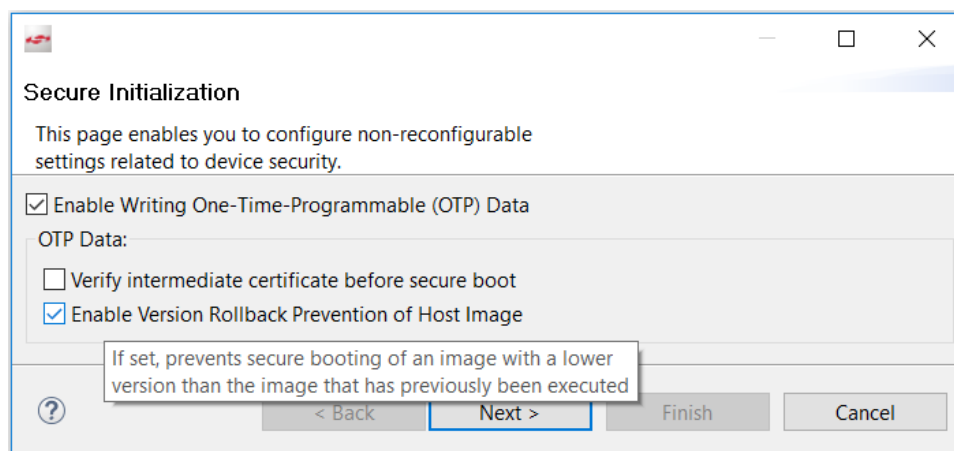

Figure 2.3. Secure Initialization Dialog Box
6. Run the `util appinfo` command to get all available information about `ApplicationProperties_t` structure in an application image. If **Enable Version Rollback Prevention of Host Image** in Figure 2.3 Secure Initialization Dialog Box on page 10 is checked, application images with a lower App version than the image currently stored in flash will not run on the device.